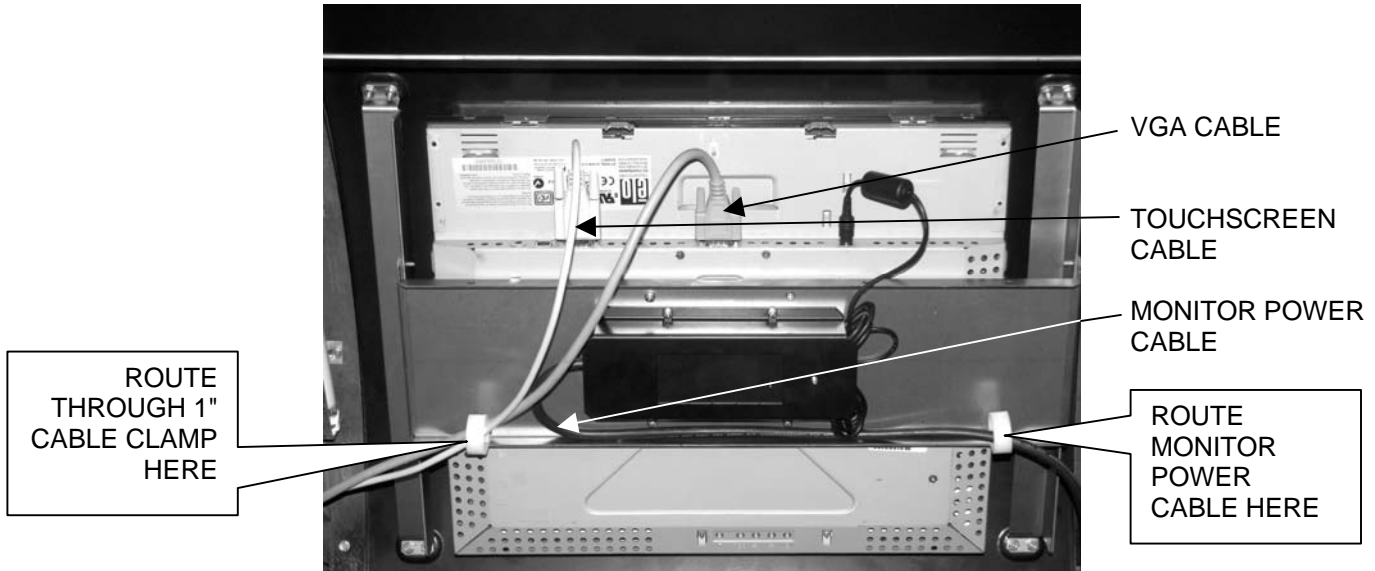

Figure 21 - Routing Cables
9. Insure the Monitor power cable, VGA and Touch-screen cables are the appropriate headers in the monitor and route them through the existing 1" cable clamp as shown in *Figure 21*.